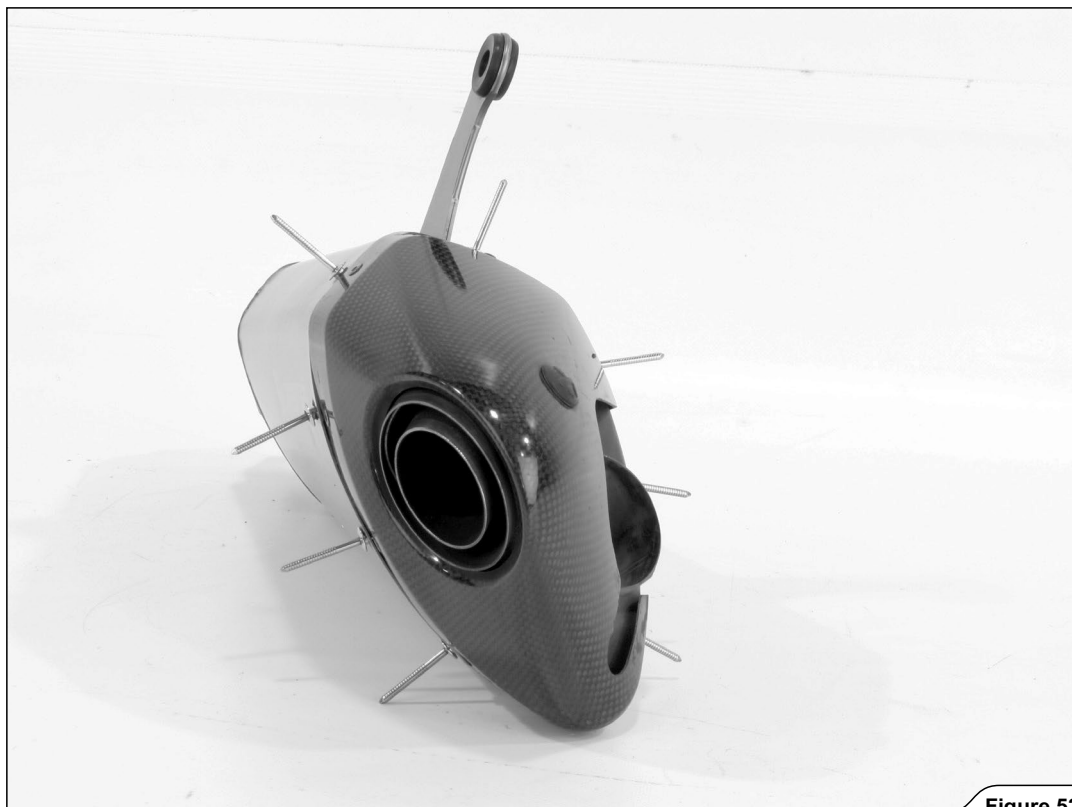

Figure 52
6. Insert the rivets supplied in the Akrapovič reparation kit into the mufflers, as shown (Figure 52).